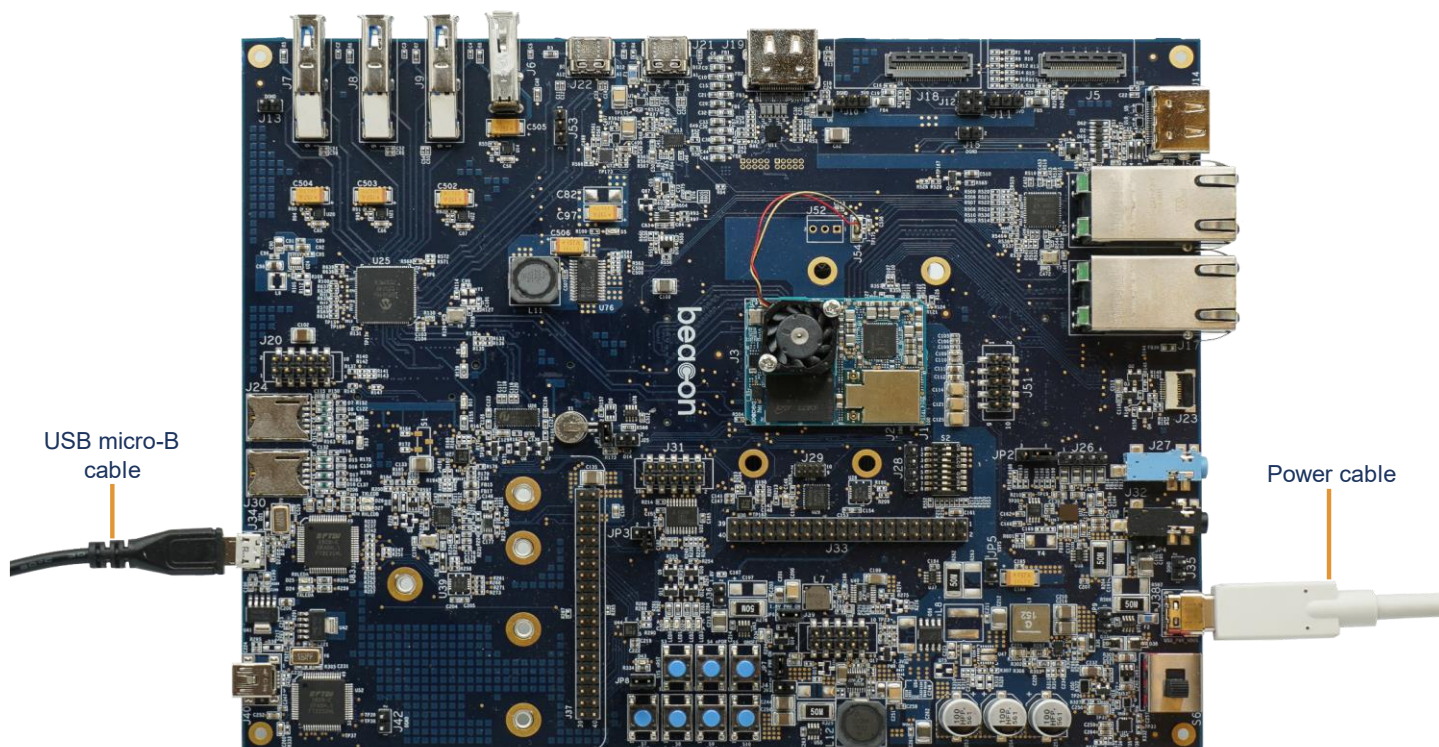

Figure 3: Baseboard (Front Side) w/ Cables
1. Connect the USB micro-B cable to the debug UART USB port (J34) on the baseboard and to an empty USB port on your host PC. See Figure 3.
2. Plug the power adapter into an electrical outlet and the USB-C cable from the output connector into the power-in connector on the baseboard. See Figure 3.